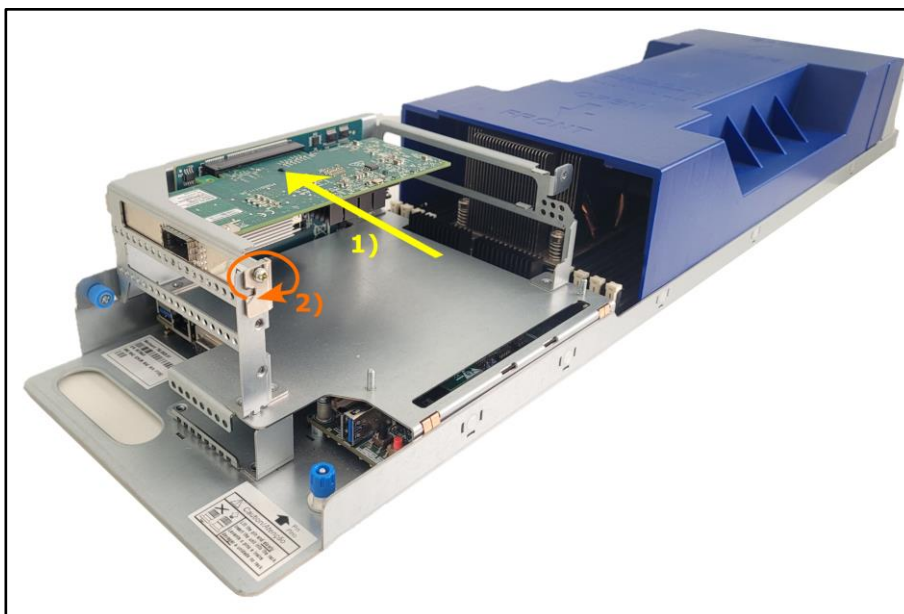

Figure 89: PCIe card installation
1. Insert the PCIe card in the mechanics as shown on step “1” from the Figure 89, connecting the PCIe connector in the desired riser card slot.